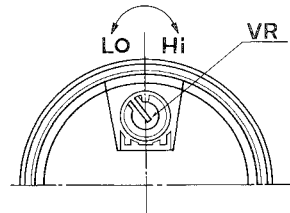

Fig. 4
2. Use a Philips type screwdriver to adjust the gain control, as shown in Fig. 4. Rotate the control clockwise to increase the sensitivity, and counter-clockwise to decrease it.